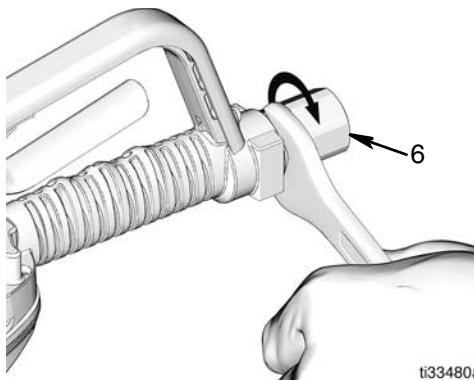

FIG. 13
3. Use a wrench to loosen and remove swivel fitting (6) from metered dispense valve (FIG. 13).